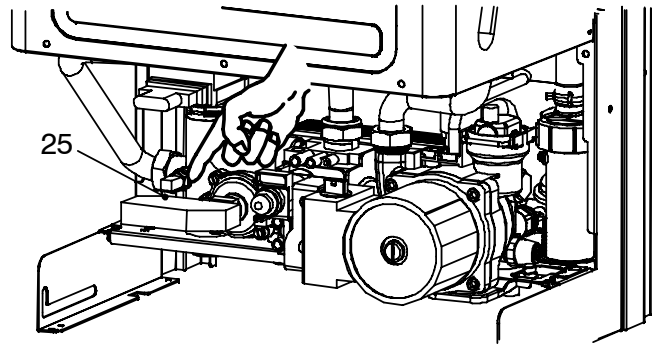

Fig. 8.2
- 9 Disconnect the C.h. temperature probe NTC 25 in Fig. 8.2
- 11 Connect the C.h. temperature probe NTC 25 in Fig. 8.2